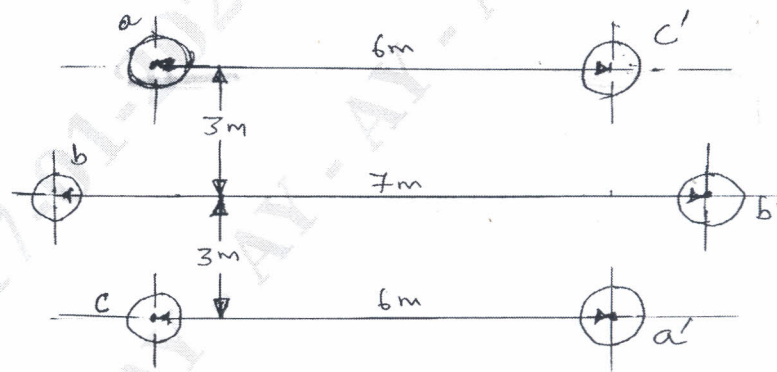

Fig. Q3(b)
- b. Find the inductance per phase per km of double circuit three phase line shown in Fig. Q3(b). The line is completely transposed. Use GMD method. The radius of the conductor is 9mm. (08 Marks)
- c. A 3 – phase, 50Hz, 66KV overhead line conductors are placed in a horizontal plane as shown in Fig. Q3(c). The conductor diameter is 1.25cm. If the line length is 100km. Calculate